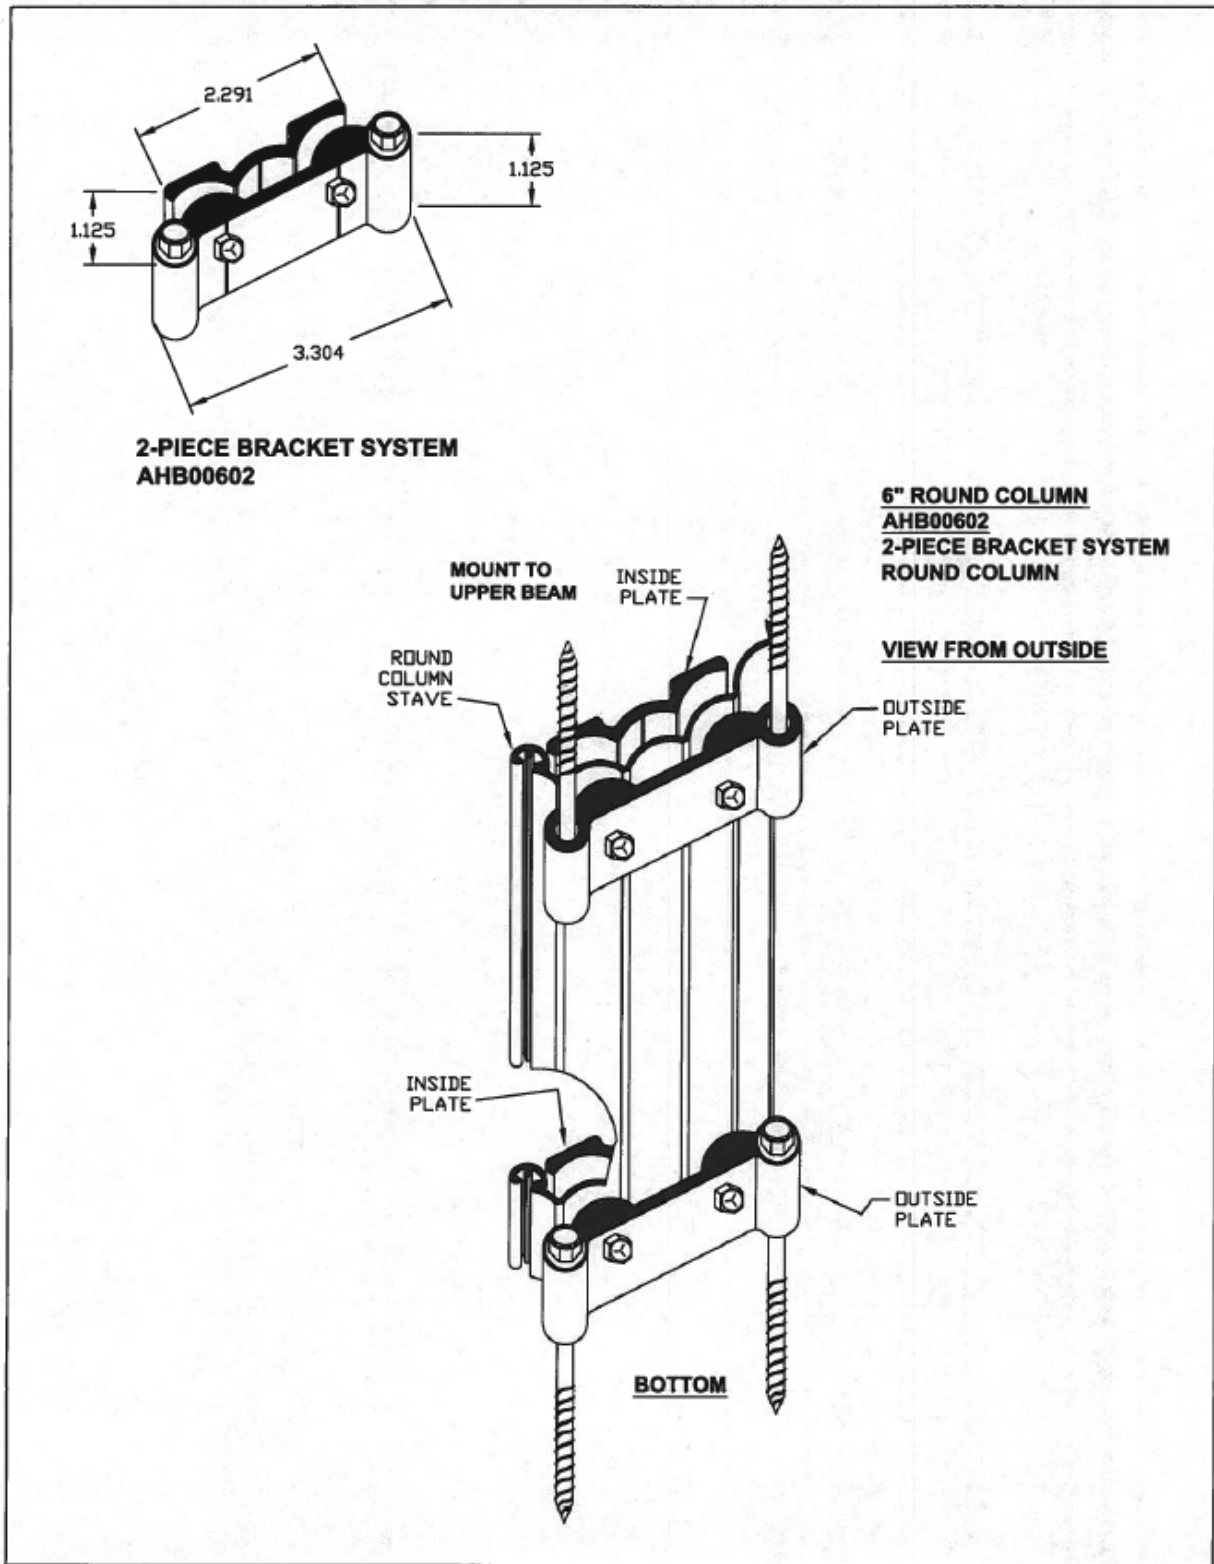

Figure 1. 6" Diameter Round Fluted
Hurricane Bracket System: A Hurricane Bracket System is required for each column. The type of Hurricane Bracket system is specified in Table 1. Figures 1 thru 5 in this evaluation report illustrate the Hurricane Bracket Systems.
- The Hurricane Bracket System is fabricated for the different types of columns and installed on the top and bottom (two (2) at the top and two (2) at the bottom).
- Place outside plate(s) flush with the end of column and clamp to the column shaft to prevent movement. Refer to Figure 1 thru 5.
- For each bracket, two (2) fasteners are required to secure the bracket to the columns and two fasteners are required to secure the bracket to the foundation. It is required that the fastener size and type used be determined by a Texas licensed engineer based on the required uplift loads, the construction of the beam at the top and the construction of the foundation.